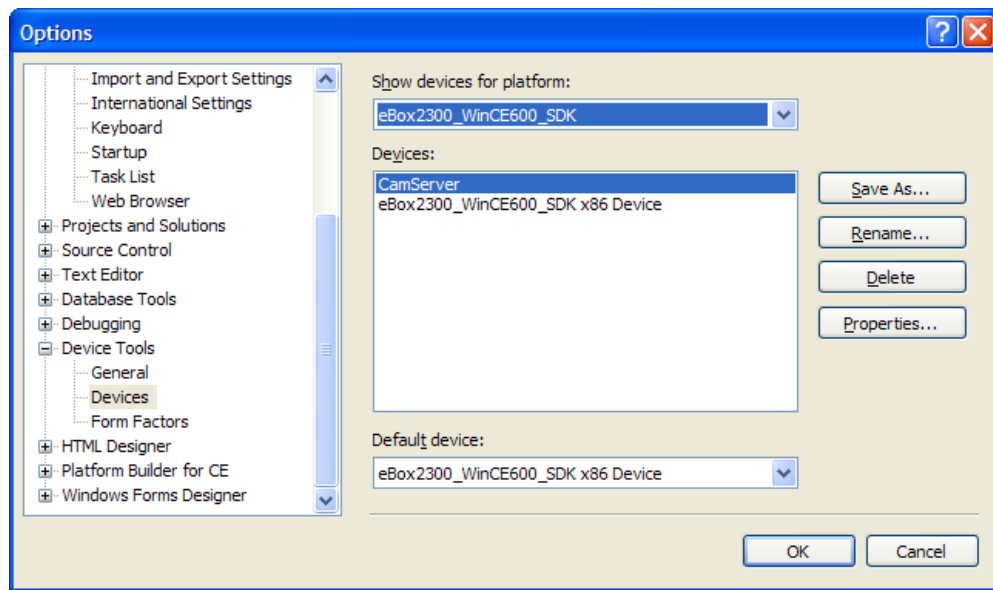

Figure 63. VS 2005 Option Window
4. Select Your eBox SDK name from the list of available platform in the Show devices for platform combo text box as shown in figure 63.